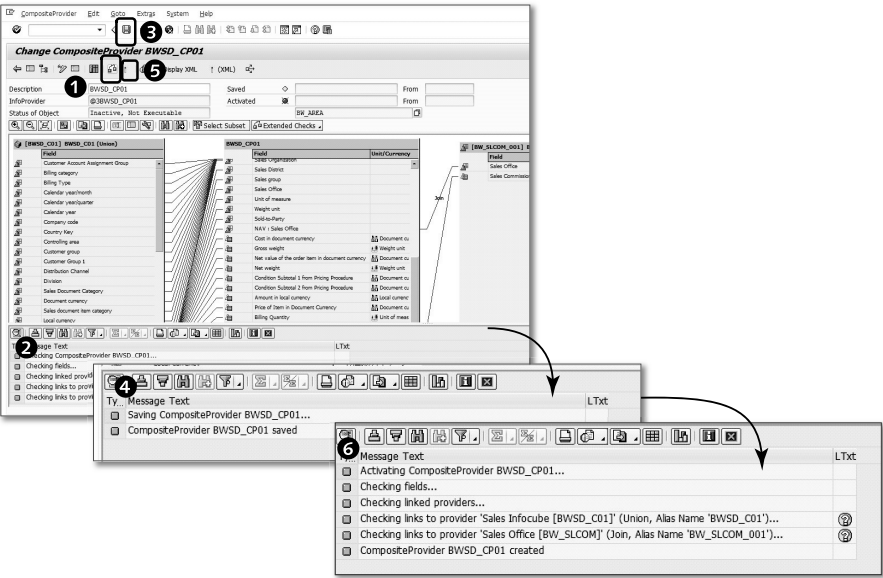

Figure 6.74 Saving and Activating a Composite Provider
Check the CompositeProvider using the CHECK icon (❶ of Figure 6.74), and take note of the system messages in the information panel that gets generated below ❷. When there are no errors reported, save the CompositeProvider by clicking on the SAVE icon in the menu bar ❸, and note the system messages in the information panel that gets generated below ❹. Finally, activate the CompositeProvider by using the ACTIVATE icon ❺, and note the system messages in the information panel that generated below ❻.